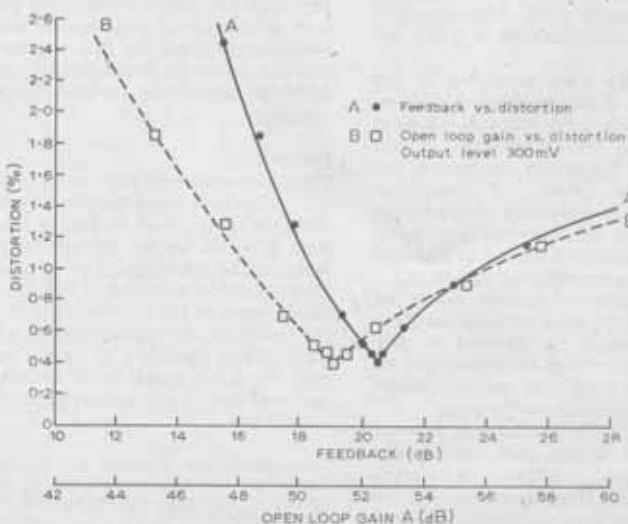

Fig. 2
For an infinite gain op-amp, equation 4 reduces to Walker's original form. To confirm this result an amplifier was made with a variable open loop gain (A). This variation in open loop gain was obtained in an elegant manner by connecting a potentiometer across the compensating terminals of the operational amplifier used. The circuit was designed to have minimum distortion for an open loop gain of approximately 52dB, corresponding to 20dB of feedback. Fig. 2 shows the results which confirm that increasing feedback beyond a particular value makes the distortion figure worse. In fact with all the current dump elements removed and the same amount of feedback (20dB), the distortion measured 3.1% against the null reading of 0.4%. This should remove any doubt about the effectiveness of the method, and Mr Walker and Mr Albinson of the Acoustical Manufacturing Company should be congratulated on innovating a most elegant method for removing distortion and for eliminating thermal problems associated with the output stages of high power audio amplifiers.